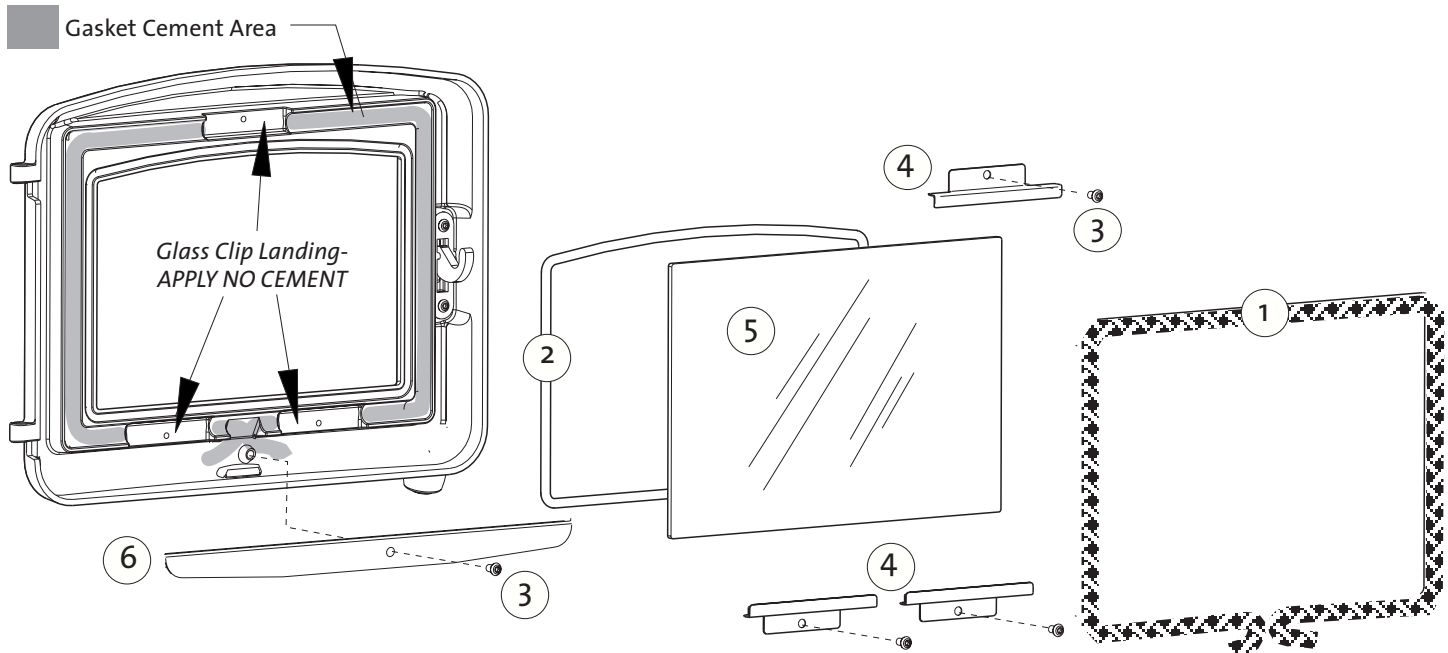

Figure 18. Glass and Gasket Replacement
5. Apply a small bead of gasket cement to the channel as shown in fig. 18. **DO NOT APPLY CEMENT TO THE GLASS CLIPS OR THE CLIP LANDING AREAS.**
6. Starting at the center of the gasket length and the top center of the channel, gently press each gasket half into the channel. Do not stretch the gasket. Wrap the ends at the center of the bottom as shown in fig. 18.